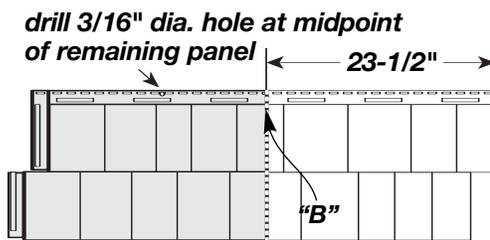

FIGURE 6
- 7) Cut 23-1/2" off of the right side of the D7 shingle at indicator "B," which is located above the nail slots, cutting straight through the panel (figure 6). Drill a 3/16" hole in the center of the nail hem and nail the siding through this hole to control the direction of expansion and contraction. Another option is to nail each end of a nail slot located at the center of the panel.